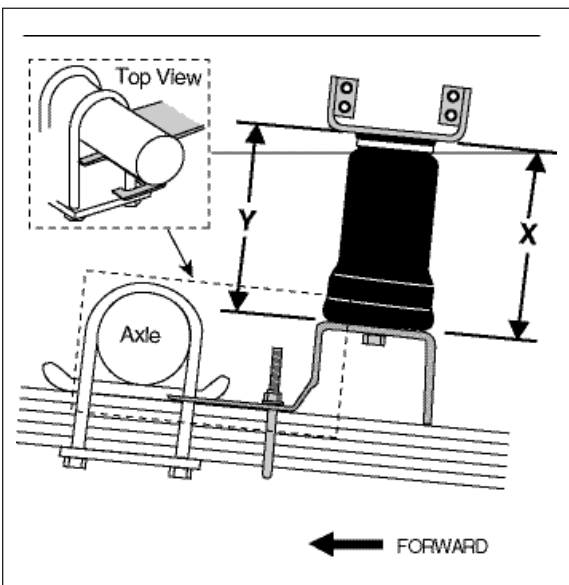

Figure 4
1. Set the preassembled bracket/tool assembly on the leaf spring behind the axle. Hook the C-shaped end of the lower bracket around the axle U-bolt, and secure the lower bracket to the leaf spring with the provided U-bolt, flat washers, and lock nuts (Figure 4). Torque to 16 ft-lbs.
3. Using the bracket as a template, mark four holes on each side of the bracket to be drilled. The X and Y dimensions (Figure 4) should be